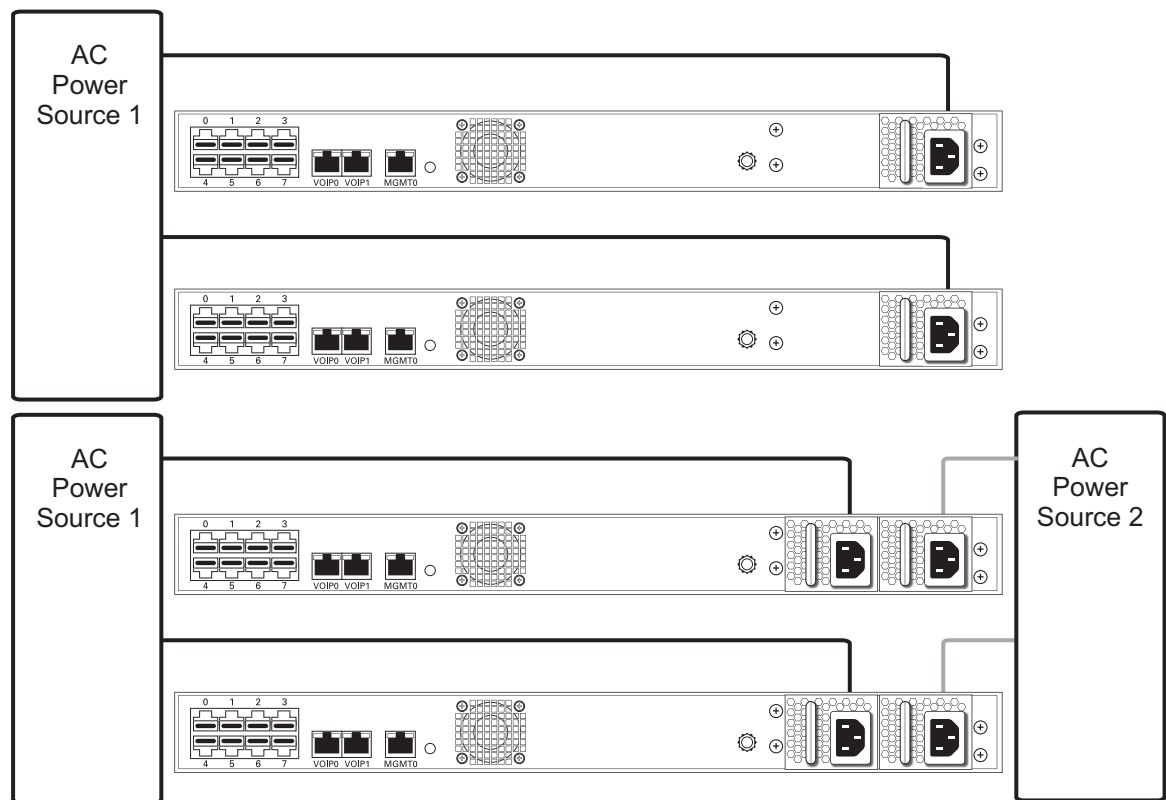

Figure 2.12 TMG800 and TMG800 +1 AC Power Connections
1. Connect an AC power cord between AC connector of the TMG800 and TMG800 +1 and AC supplies. See Figure 2.12.